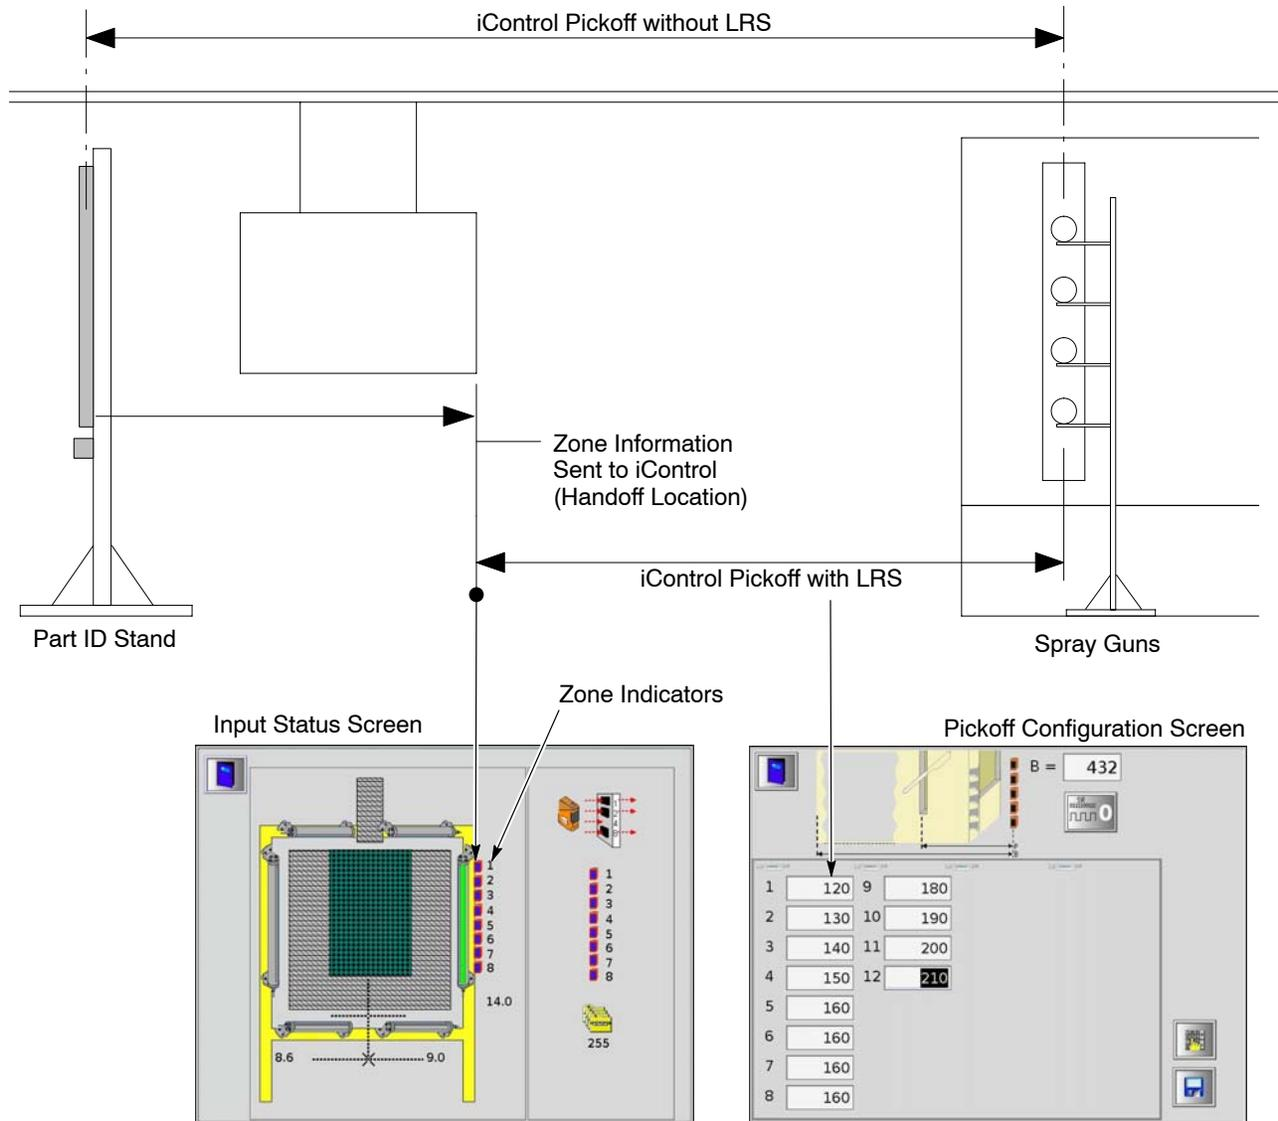

Figure 7 Part ID Screen
12. **Handoff Location:** Distance in encoder counts from the photoeyes to the position where the part data can be sent to the iControl system. The valid range is 36 to 240 counts. See Figure 7.
See Figure 7. Normally, when an iControl system is configured, the pickoff point is located at the zone sensors and the pickoff for each spray gun is the distance from the zone sensors to the spray gun. The iControl system starts tracking a part when the zone sensors see the part.